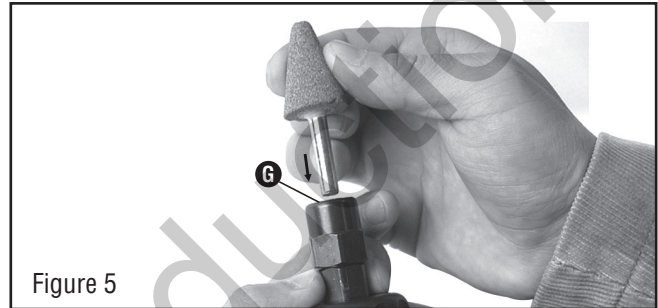

Figure 5
5. Insert the grinding accessory into the collet (G). (See Figure 5)